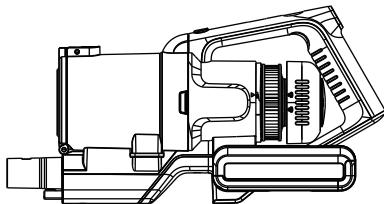

Fig. 19
7. To clean or replace the post-motor filter, turn the cover anticlockwise and lift off the cover (fig. 19), remove the filter (Fig.20), wash and dry the filter in accordance with step 4.